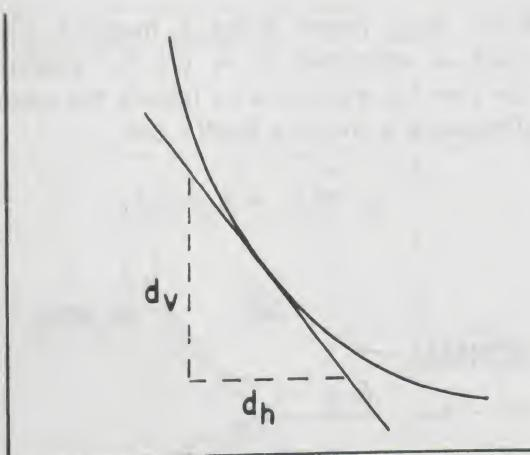

Figure 47. The slope of a curved line at a point is the same as the slope of a straight line which is tangent to the curve at that point.
2. *The dispersion can depend on wavelength.* If one of your graphs is a curved line, then its slope is changing. Therefore, the dispersion is changing. You can find the slope of a given point of a curve by drawing a straight line tangent to (touching at only one point) the curve, then the measured slope of the tangent line is the slope of the curve at that point. See Figure 47.